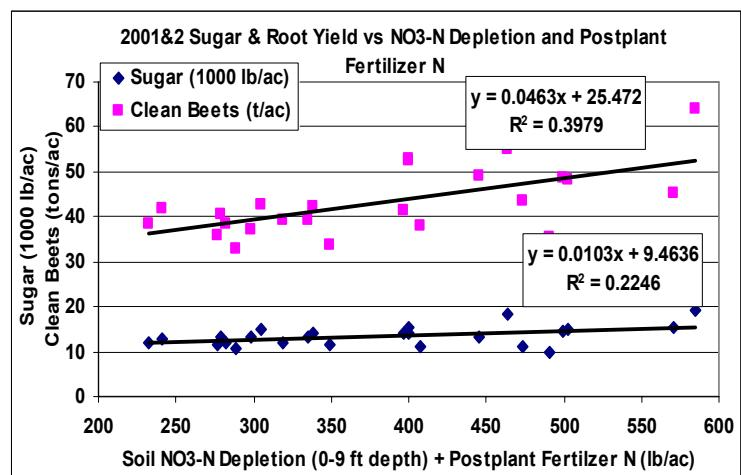

Fig. 1. Correlation of NO3-N depletion to 9 feet plus post-plant fertilizer N with root and sugar yield.
More of the story is told by accounting for NO3-N (plus post-plant N fertilizer) down to 9 feet. This showed a depletion of 232 to 584 lbs/ac and explains 40% of the variation in root yield differences ( $R^2 = 0.398$ , see Fig. 1). Total sugar (almost a flat line in Figure 1), however, only increases at  $\frac{1}{4}$  the rate of root yield because sugar % in the roots decreases as soil NO3-N increases. So excessive levels of soil N and/or added fertilizer will depress your sugar % at harvest.
Table 1 says that a 32.9 ton/ac crop should require 280 lbs. N, and 64 ton/ac needs 544 lbs N. This isn't too far off the total N use found in these trials. However, the scatter of sample yields around 33 to 42 ton/ac (as shown in Figure 1) does not show a consistent 8.5 lb/ton N use and jumps around between 232 to 350 lb N use.
The numbers in Table 3 below compare the overall field characteristics at harvest with the averages from our 4 small, intensively monitored plots in each field. In general, small plot hand harvest yields overestimate the final field yield by about 10%. Small plot yields, sugar % and nutrient status are necessary to check for significant relationships like those of Figures 1 through 3. Crop water use (ET) ran about 30 inches for both seasons, except for the Panoche clay loam field in 2001 where the well had insufficient flow to meet full late season demand. Because of efficient irrigation scheduling, the Milham Field 2 actually extracted more stored water from the profile than was applied after stand establishment even though there was about 1 inch of deep percolation with the first irrigation. Harvest of this field was also moved up nearly 2 weeks due to the severity of bolting (~80%), which definitely impacted yield.